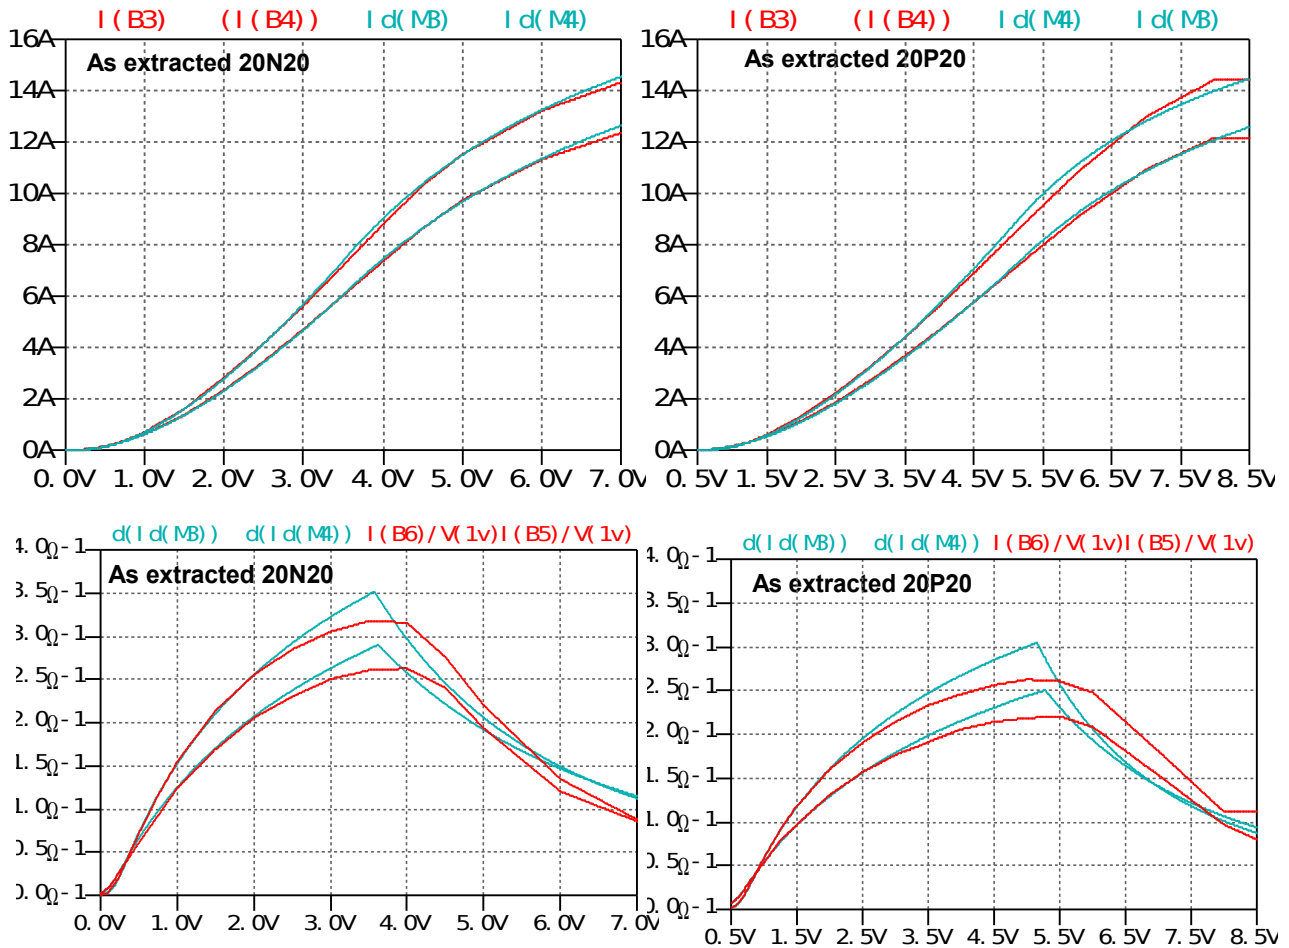

Figure 8. Model Id (Cyan top) and gm (Cyan lower) as extracted (Table 1) and measured Id
**Figure 8** shows the Id vs Vgs plots (top 2 plots) are Id for VDMOS models M3 (25°C) and M4 (75°C). The measured values are plotted using I(B3) (25°C) and I(B4) (75°C) using data Table(...).